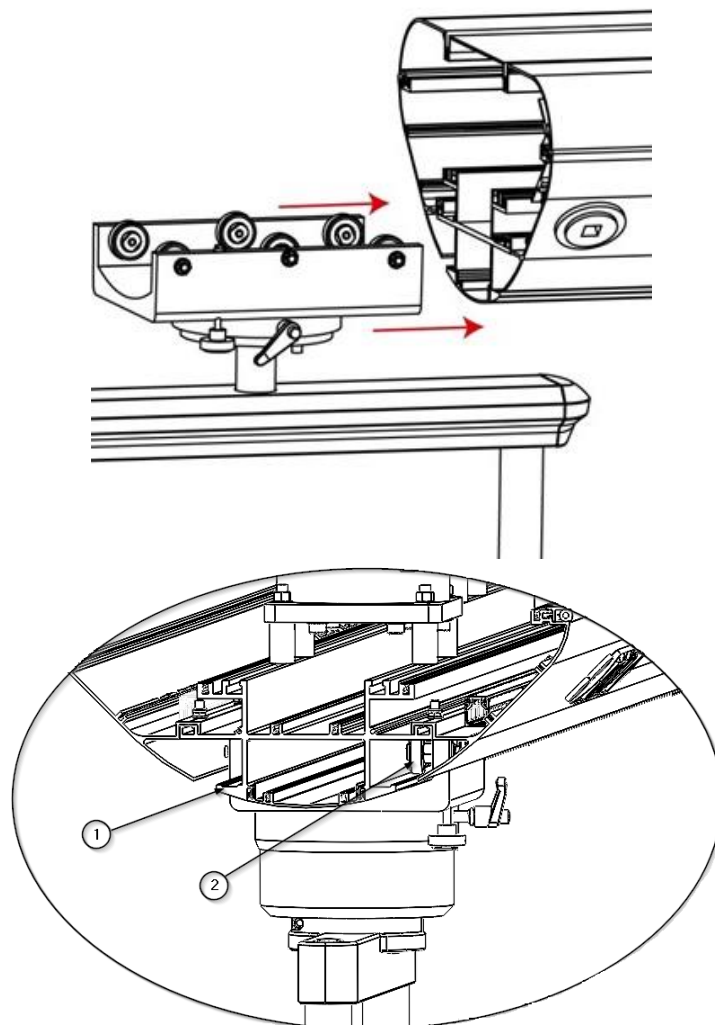

Fig. 63 Assembly of the trolley
- Insert the carriage with the bearings ② into the guide in the centre of the main body ① as shown in figure 63.